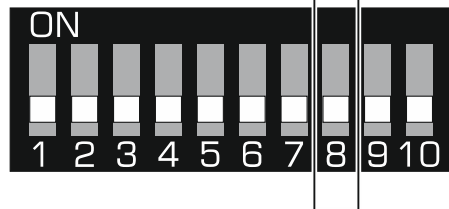

Fig. 3. Switch defining which antenna will be used for transmitting.
**Switch 8** (Fig. 3) defines the antenna that will be used for transmitting: